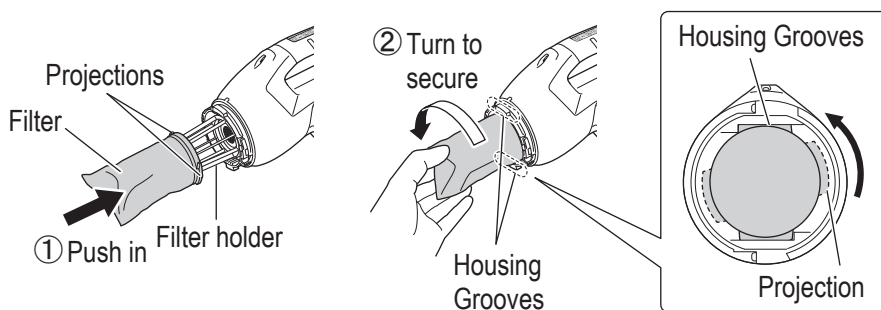

Fig. 9
- (4) Install the filter (**Fig. 9**)